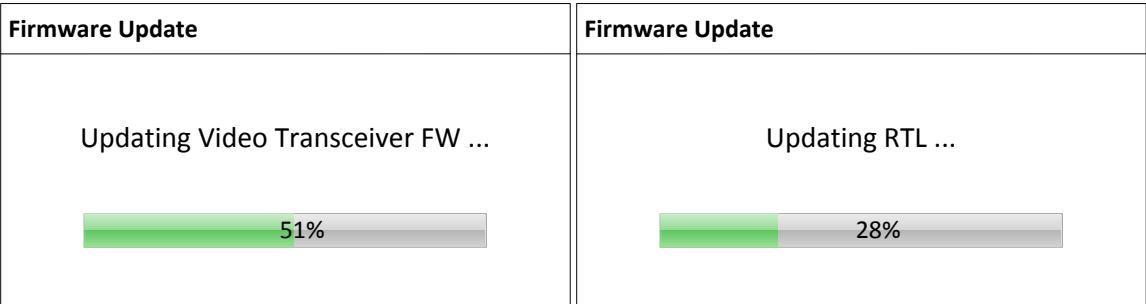

Figure A.5. Transceiver FW and RTL Updating Windows shown on the SL-881 LCD Touch Screen
9. After that step is done, Video Transceiver and RTL firmware will be updated automatically as shown in Figure A.5.